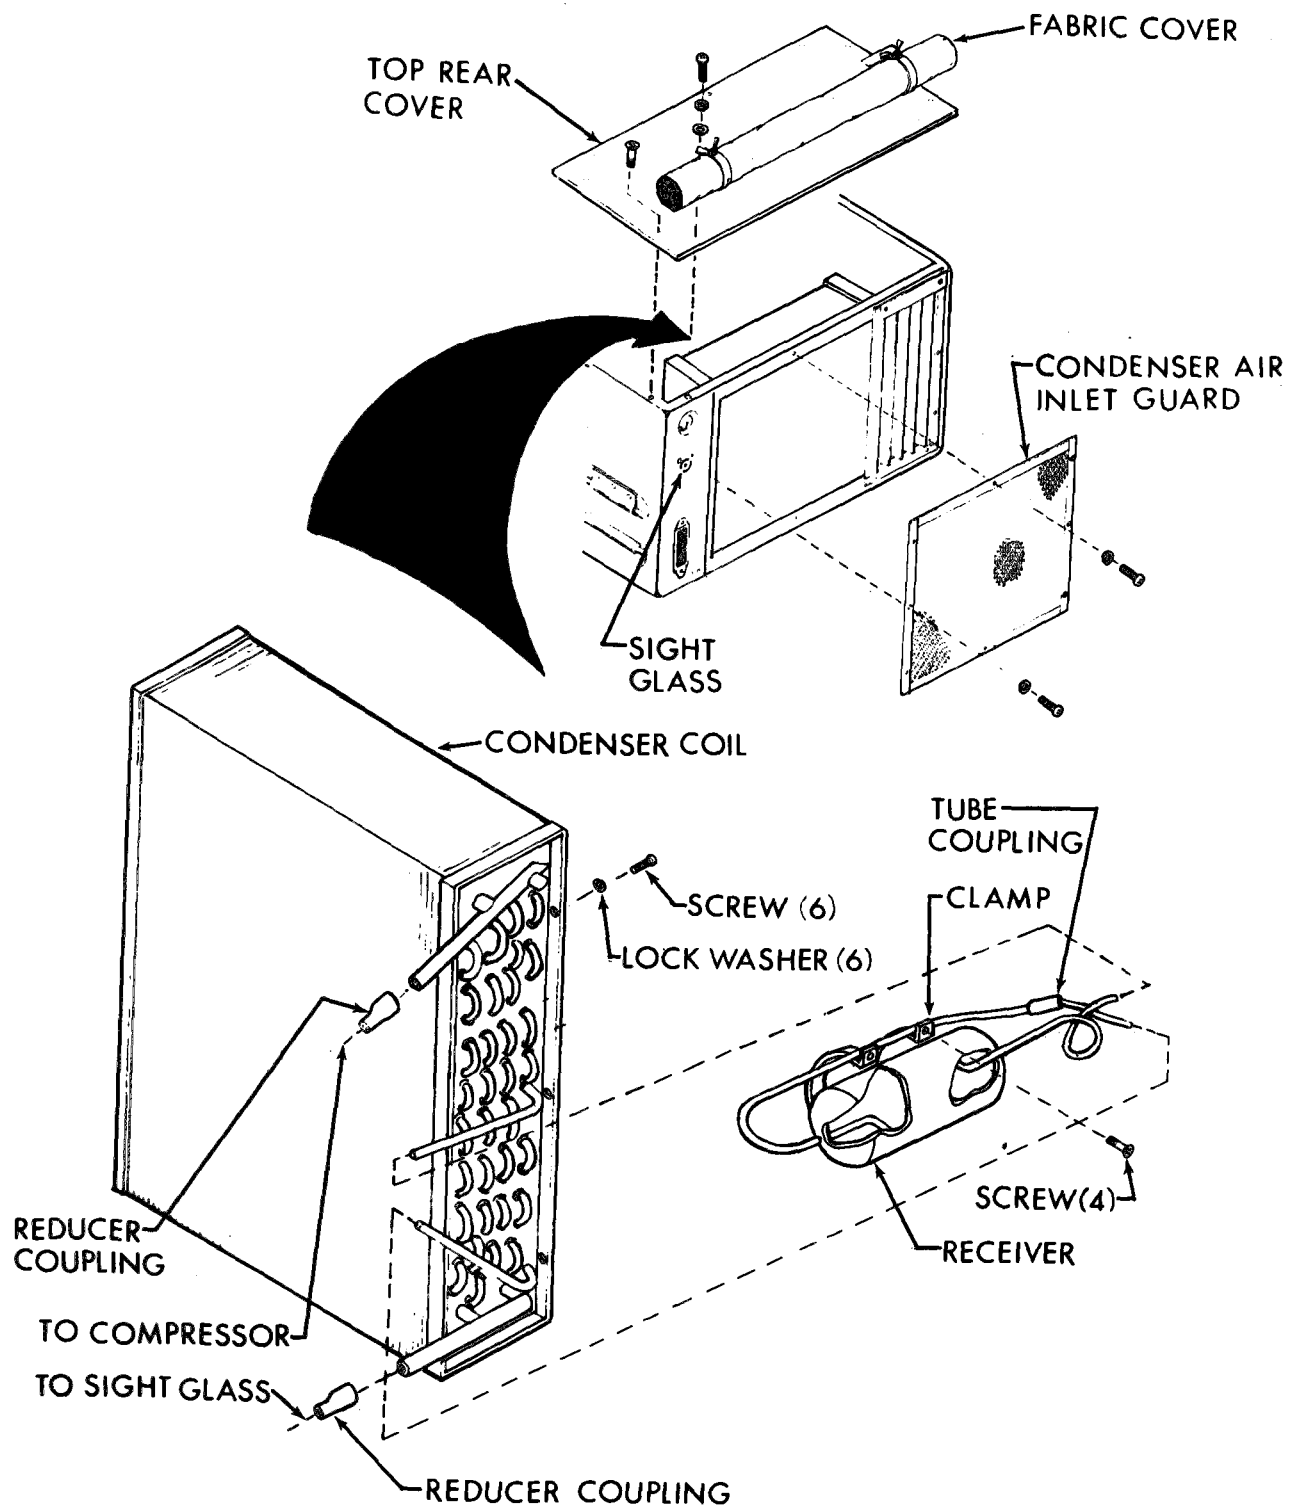

Figure 5-18. Condenser Coil
a. Removal. (See fig. 5-18.)
(1) Disconnect power at power source.
(2) Remove top rear cover (para 4-11).